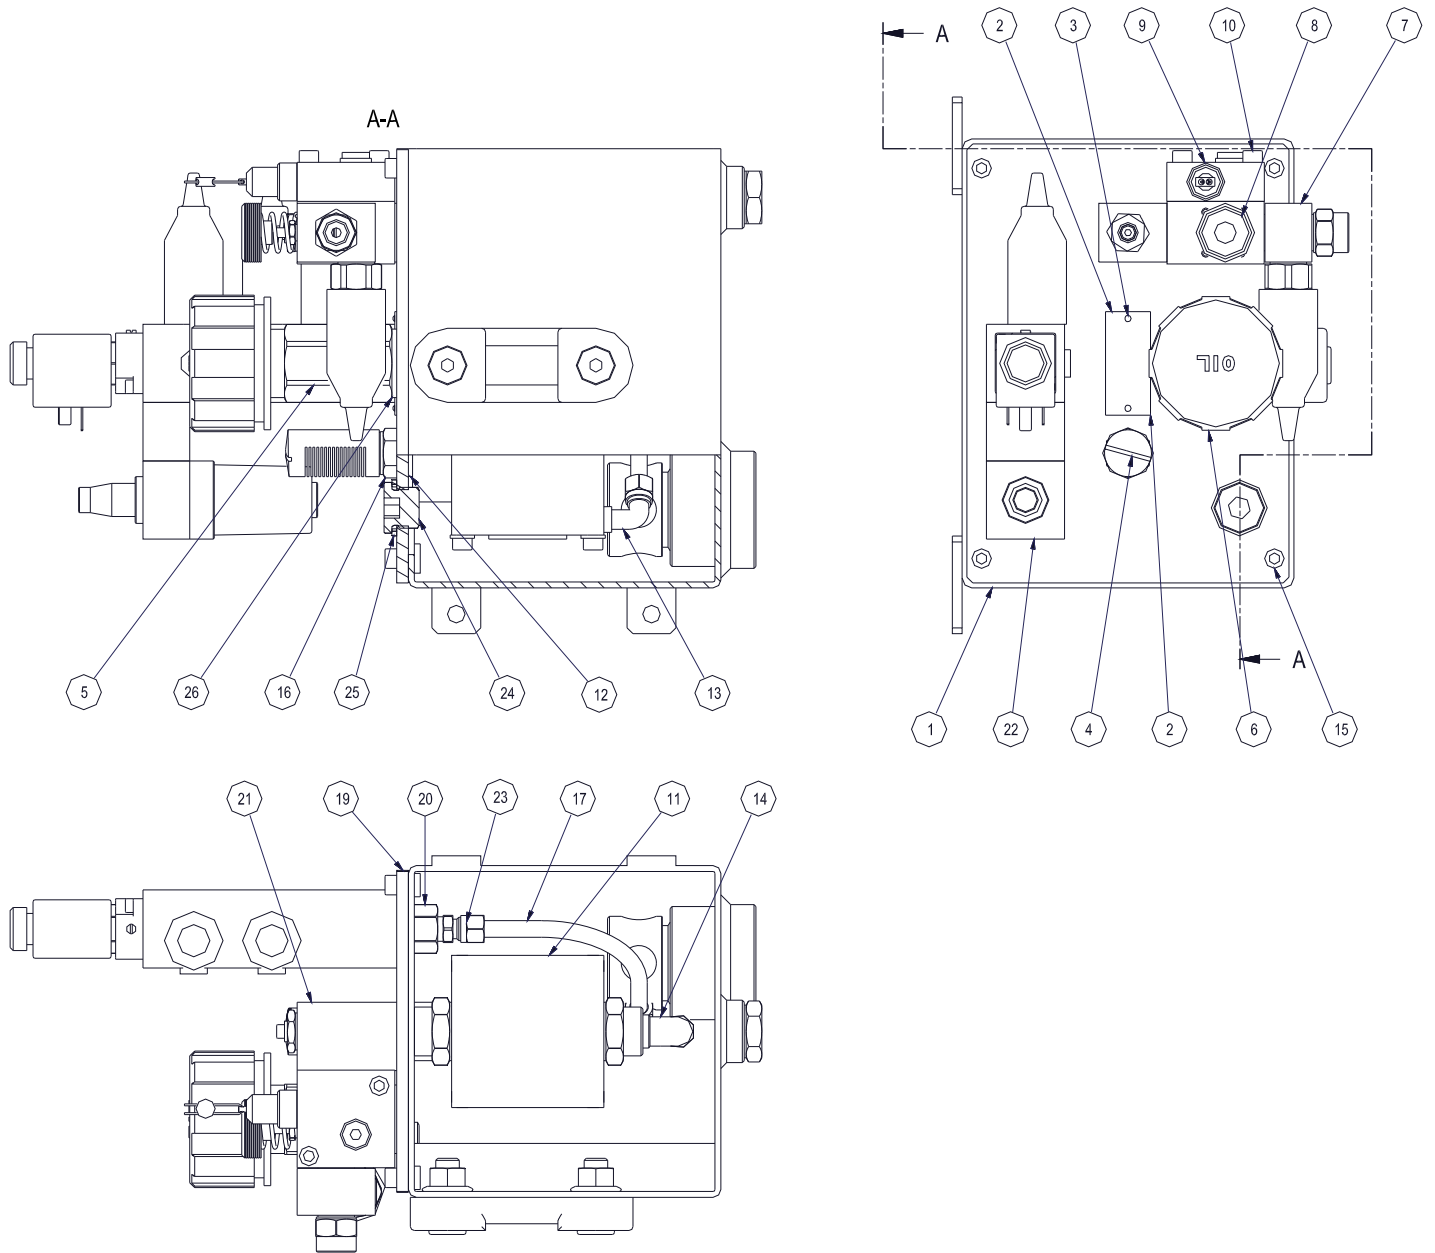

fig.5
Figure 5 shows a section plane of the control unit (code **5-1536\*-0**), where all the components of the control unit have been numbered .
**Spare parts for the control unit, code 5-1536\*-0 (see the section plane in figure 5)**